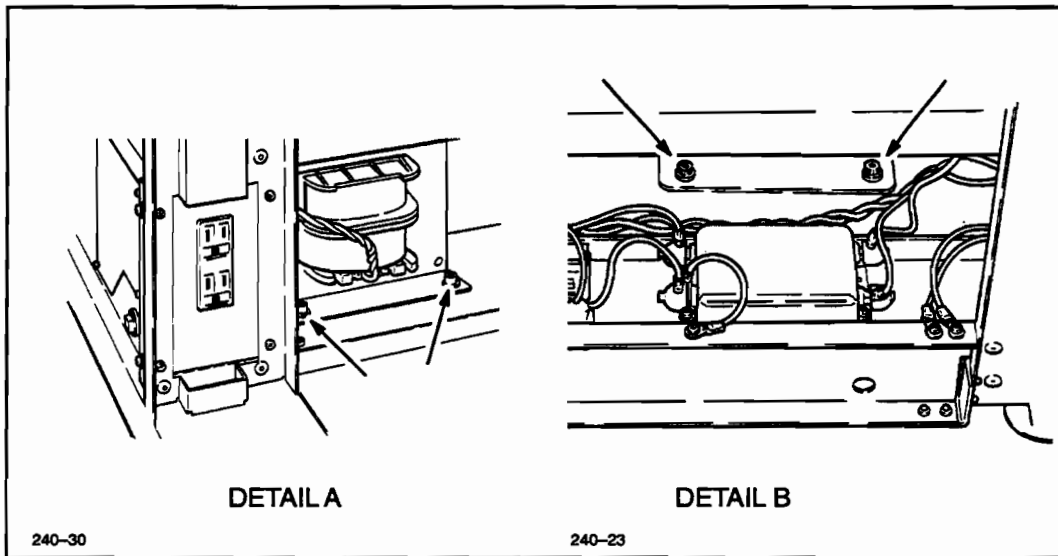

Figure 6-27. Main Transformer (T1) Mounting Screws
8. Using a 4 mm Allen wrench, remove the four transformer mounting screws. See Figure 6-27.